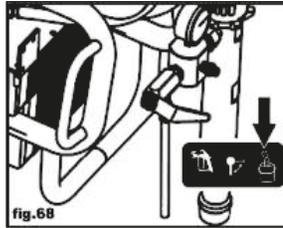

fig.68
- Turn power off and turn "prime/spray" switch to "prime" mode to relieve pressure (fig.68)